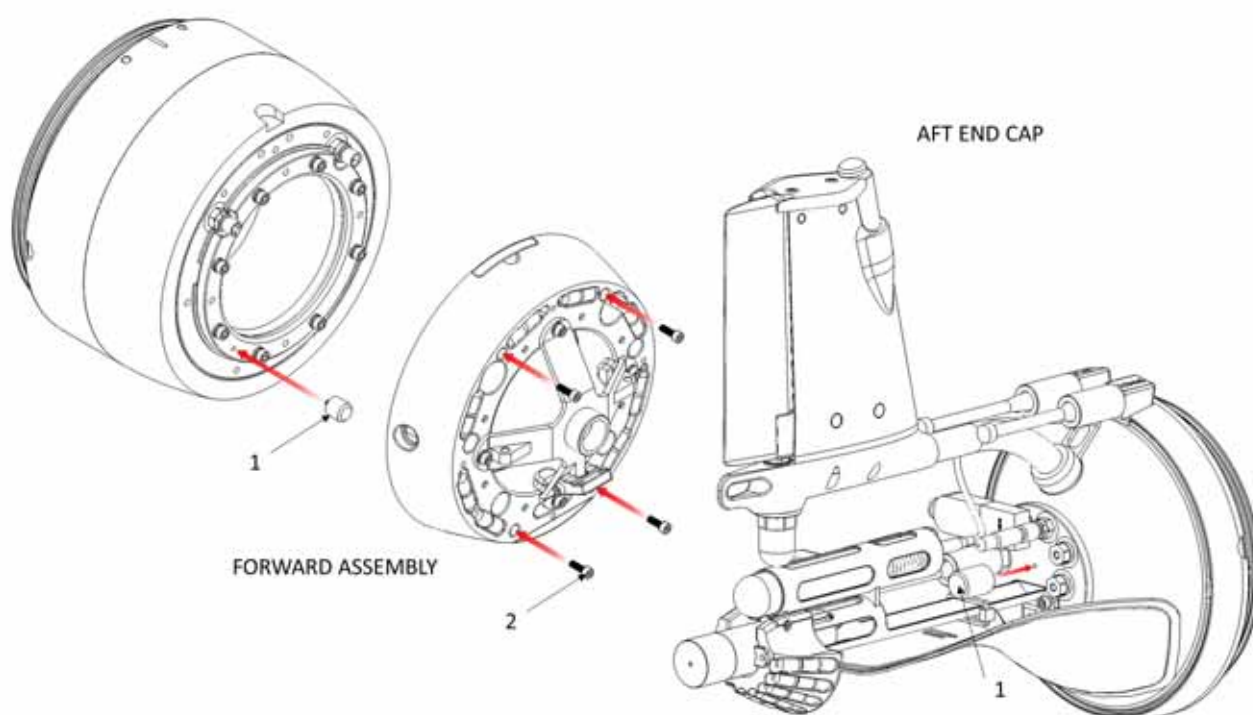

Figure 2-10 Anode assembly.
1. Unscrew the 4 screws (Figure 2-10, Item 2), holding in the transition piece.
8. Reattach the transition piece by screwing in the 4 screws (Figure 2-10, Item 2).